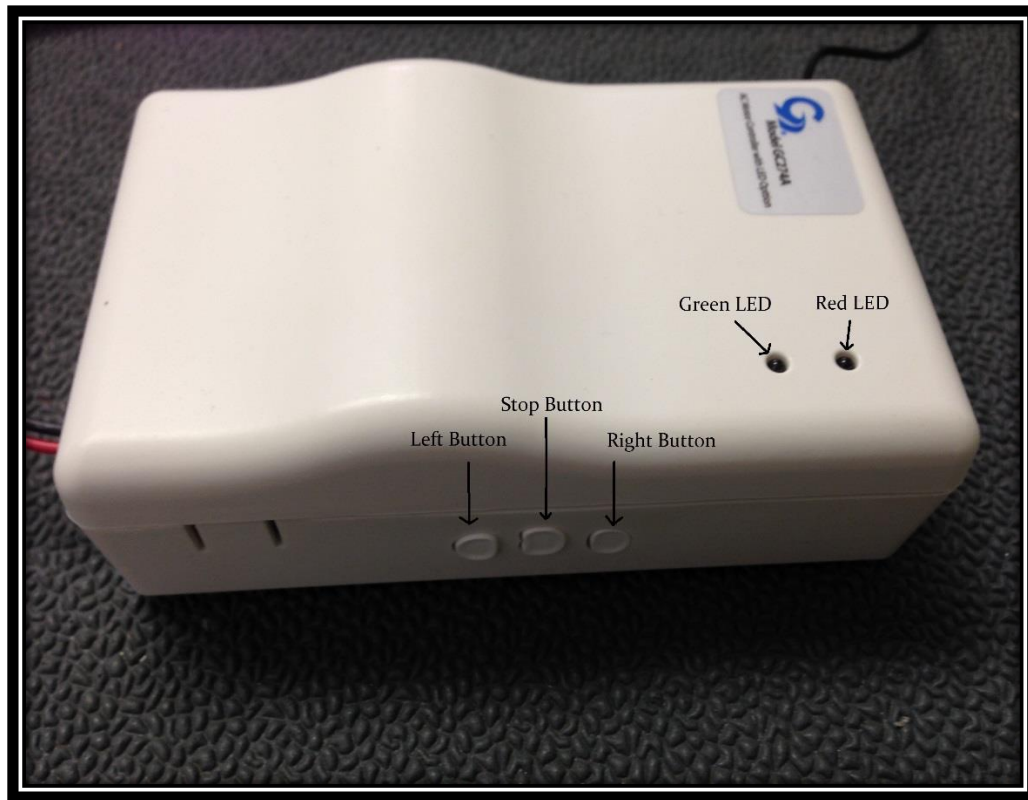

Figure 1
The Awning may be operated directly from the **GC274A** using the UP/STOP/DOWN buttons (see figure 1.). The direction of travel of the motor can be reversed without the need of changing the wiring by press the UP and DOWN button at the controller at the same time for least 5 seconds.
- d. Press STOP (Fig.1): The Green LED will stop blinking and stay on solid
- c. Press STOP (Fig. 1): The Green LED will stop blinking and stay on solid